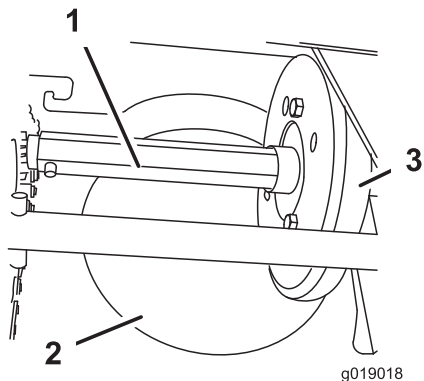

Figure 44
- A. Remove the dipstick and slowly pour oil into the oil-fill tube to raise the oil level to the Full mark on the dipstick (Figure 44). **Do not overfill.**
Lightly lubricate the hex shaft yearly with automotive engine oil (Figure 44).
Important: Do not get oil on the rubber wheel or the steel friction pulley because the traction drive will slip (Figure 44).